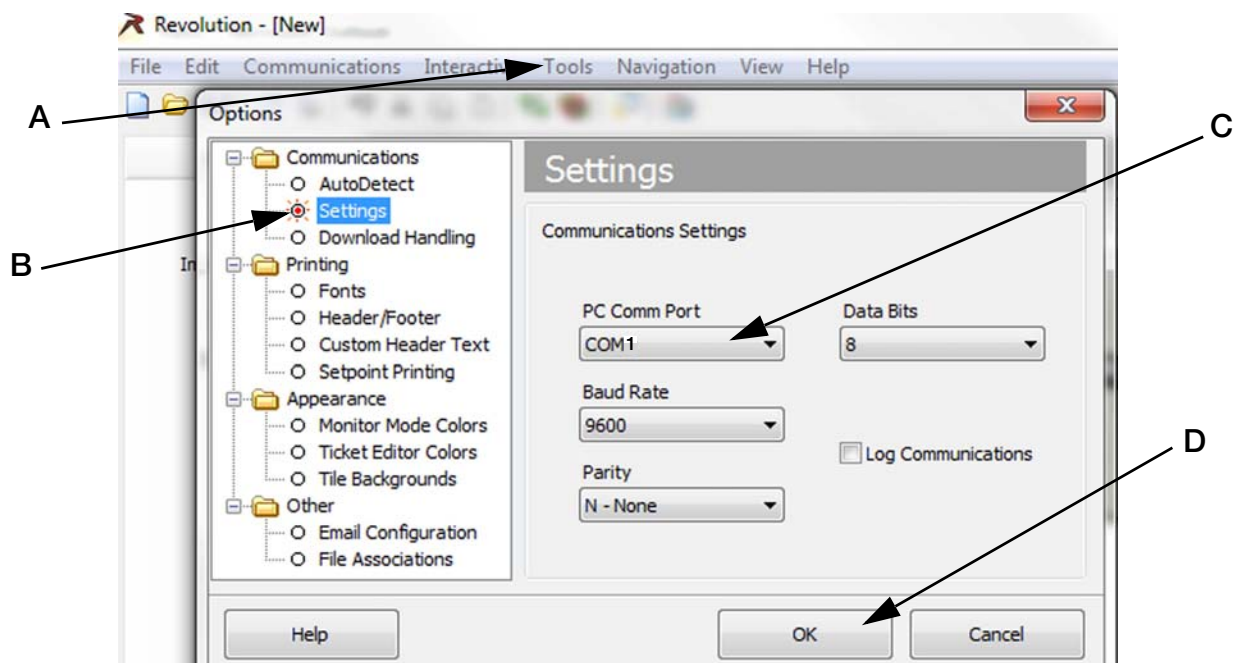

Figure 4-4. Options Screen to Select Comm Port for USB
- Go to Tools/Options (Figure 4-4 A) and select **Settings** (B), then choose the **PC Comm Port** (C).
- Click OK (Figure 4-4 D).